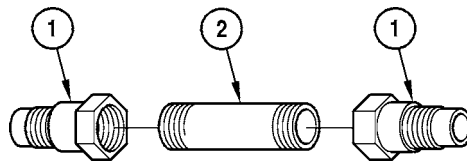

Figure 2-29. Hydraulic System Loop Fabrication
1. Thread nipple pipe (2) to match the threads of two nose pieces (1).
2. Connect nipple pipe (2) between two nose pieces (1). See Figure 2-29.